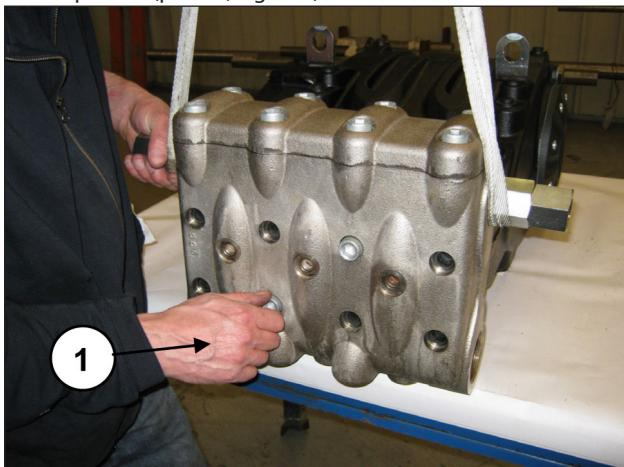

Fig. 107
It is now possible to remove the head from the pump casing, unscrewing the 8 M16x180 screws (pos. ①, Fig. 107).